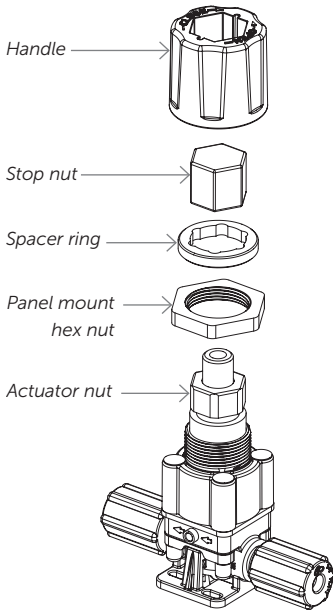

Figure 6.
13. For manual multi-turn valves, finish valve assembly (Figure 6).